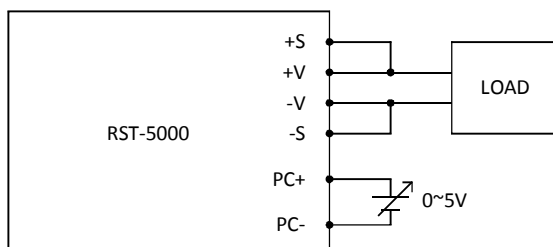

Fig 4.1
(1) Switch DIP-SW position-3 to upper position(ON) when AC power off.
(2) Using external voltage source between PC+ and PC- on CN313 or CN314 that is shown in Fig 4.1.